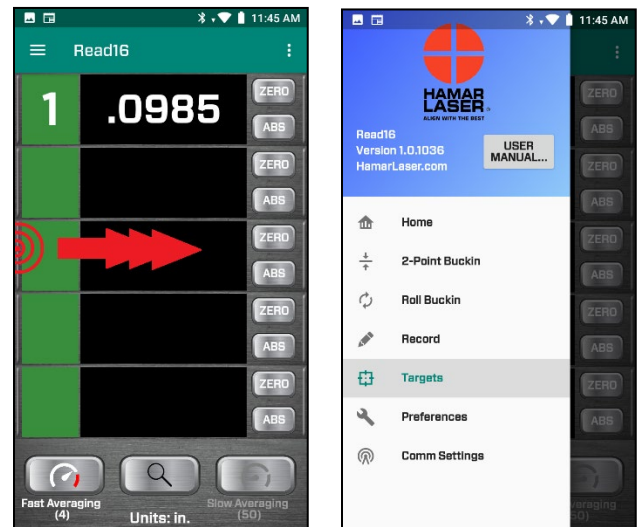

Figure 2 – Swipe from left edge to open MENU
-  Select the three bars  in the upper left part of the screen (see Figure 2).